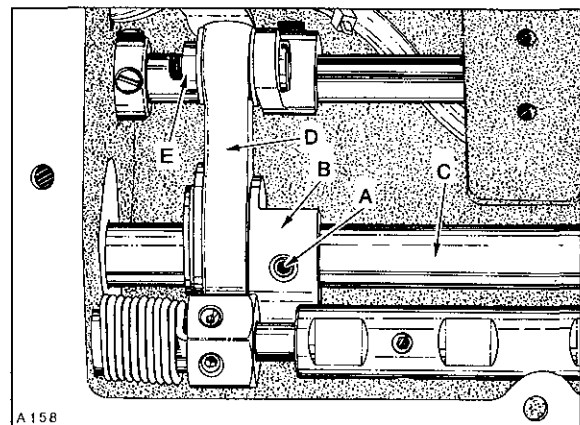
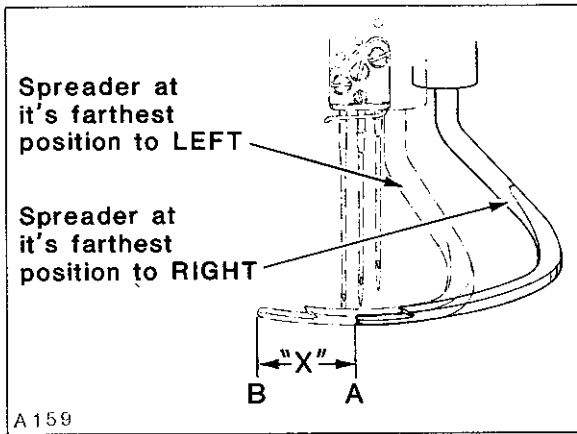

Fig. 28
Fig. 29
While rotating handwheel in operating direction, spreader should be TIMED so it begins to move from extreme left position to the right as needle bar descends 1/16 inch (1.6mm) from TOP of stroke. Adjustment can be made by removing top cover, loosen two screws (A, Fig. 28) in hub of spreader drive eccentric (B), advance or retard eccentric on shaft (C) as required. When proper timing is obtained, position eccentric on its shaft (left to right) so as to ensure that spreader connecting rod (D) has MAXIMUM and CENTRALIZED SHAKE (left to right) while tightening screws (A) securely.
Spreader travel ("X", Fig. 29) is measured by placing a scale between the two extreme spreader arc travel points (not considering the arc), as shown between points (A and B). See chart for specified dimensions. Adjustment can be made by loosening nut (E, Fig. 28), move connecting rod (D) upward to shorten spreader travel or downward to lengthen spreader travel. After specified length of travel is obtained, tighten nut (E) securely.